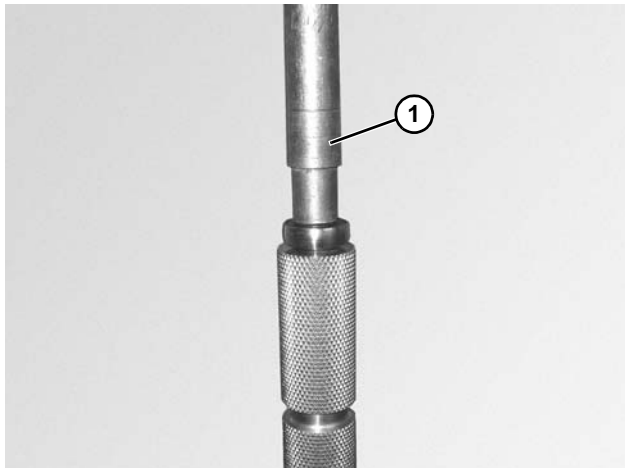

Figure 58
2. Use a bearing installation tool, (**Figure 58, item 1**), and press bearings onto the spindle and drive spindle.